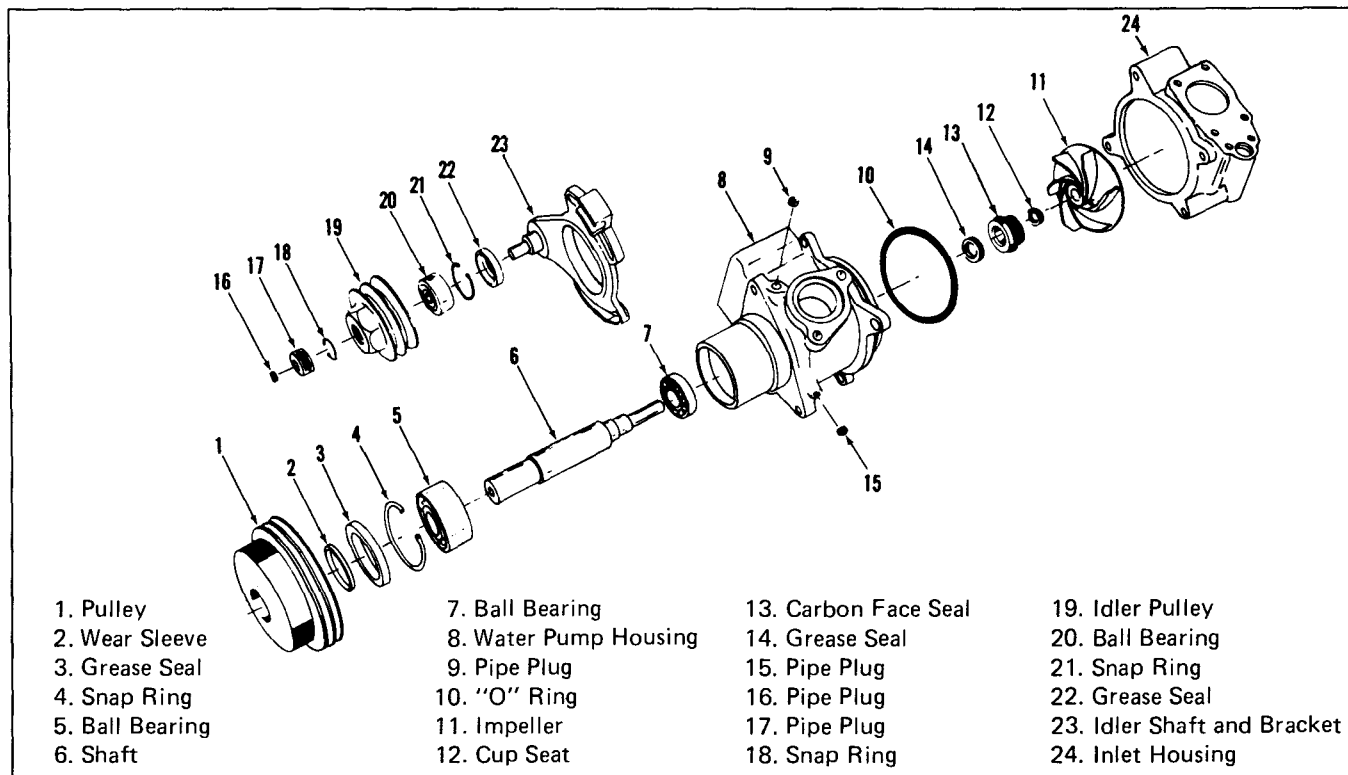

Fig. 8-13, (N10857). (NTA) Water pump — exploded view
1. Remove capscrews and lockwashers securing inlet housing (24, Fig. 8-13) to water pump housing (8). Remove inlet housing and discard "O" ring (10).
2. Using 3375257 Puller, remove pulley (1) from shaft (6). Loosen capscrews and remove idler pulley assembly from housing.
3. Reverse jaws on ST-709 Puller and remove grease seal (3) from water pump housing. Discard seal.
2. Press bearing (20, Fig. 8-13) into pulley (19) using ST-657 Bearing Mandrel.